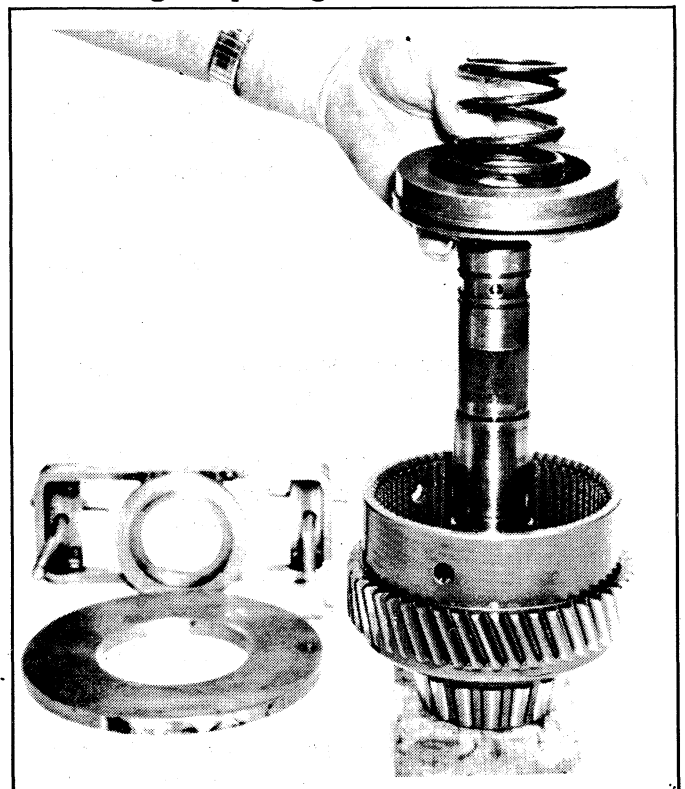

Figure 8-8. Removing or Installing Clutch Piston and Return Spring.
10. Remove the clutch piston (Figure 12-3) and piston return spring (10). See Figure 8-8.
2. Install a new piston ring (4) onto the clutch piston (3) and install the clutch piston.
3. Install piston return spring (10). See Figure 8-8.